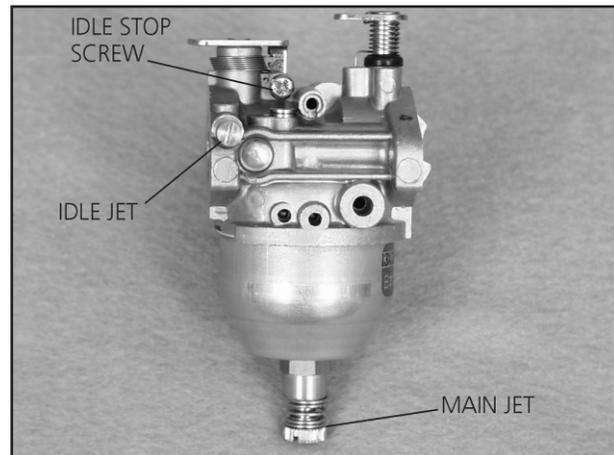

Figure 3.5 — Adjustable Carburetor
3. For adjustable carburetors, turn the carburetor IDLE JET in (clockwise) until it just bottoms. DO NOT FORCE. Then, back the IDLE JET out (counterclockwise) about 1-1/2 turns (see Figure 3.5).
4. Turn the MAIN JET (Figure 3.5) in (clockwise) until it just bottoms. DO NOT FORCE. Then, back the MAIN JET out (counterclockwise) about 1-1/2 turns.